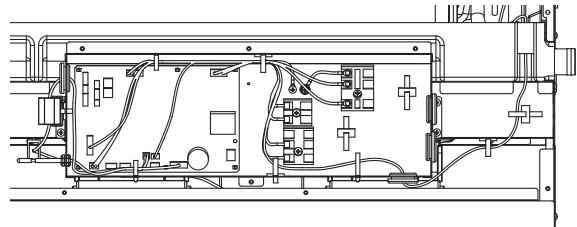

Fig.2
*At this stage, the following servicing is possible. (Fig.2)